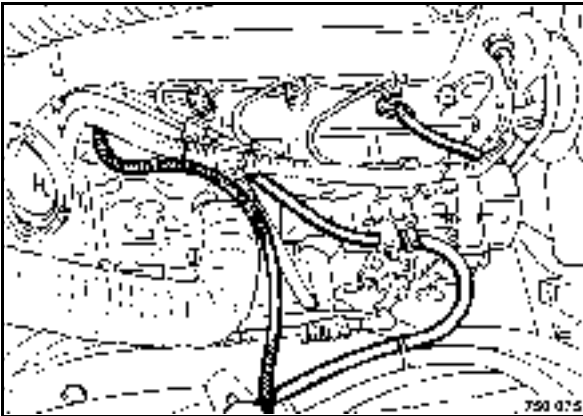

Fig. 134 084
- Replace all fuel hoses (Fig. 134) including their hose clips.